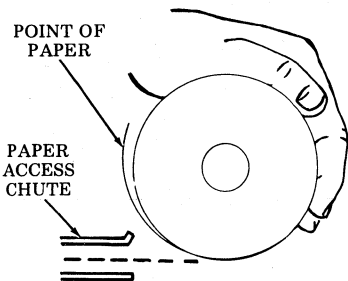

Fig. 51—Feeding Paper in Chute
9.03 Back up roll until point of paper drops behind lip of paper access chute (Fig. 51).